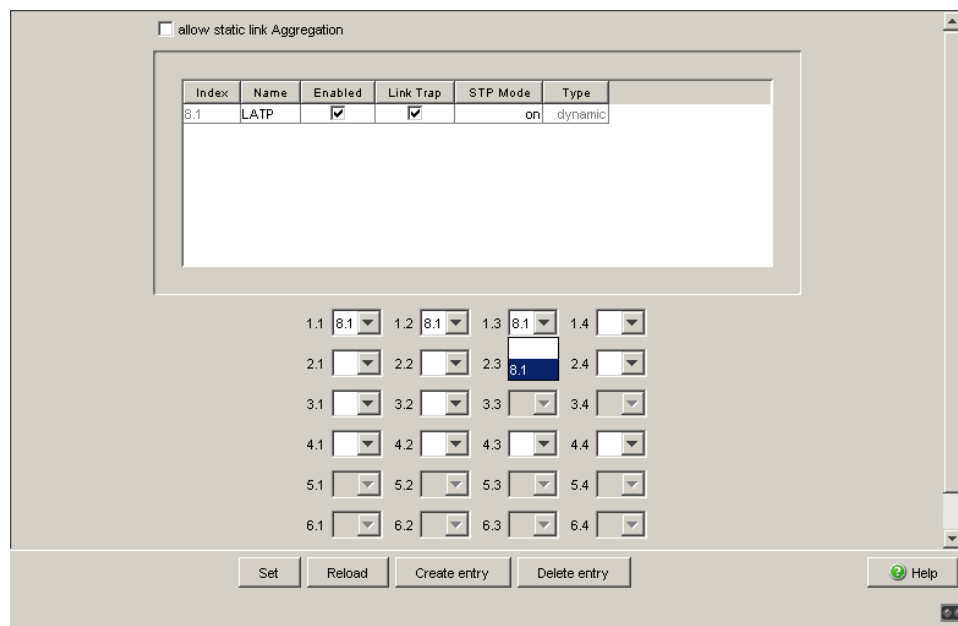

Figure 5: Assigning ports to link aggregation
- Now assign to the ports participating in the link aggregation (ports 1.1, 1.2 and 1.3) the index of the link aggregation connection LATP (8.1). (see fig. 5).